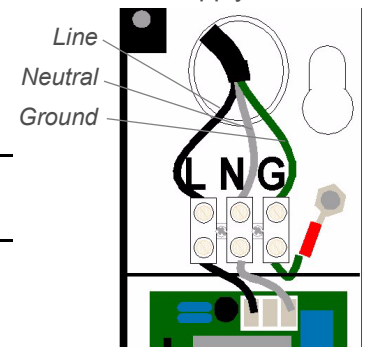

FIGURE 13: Power Connections
- 3 Strip back AC wire insulation .28", install wires into AC terminal block as shown in Figure 13, tighten screws to 5-7 in-lbs., and replace power supply cover.